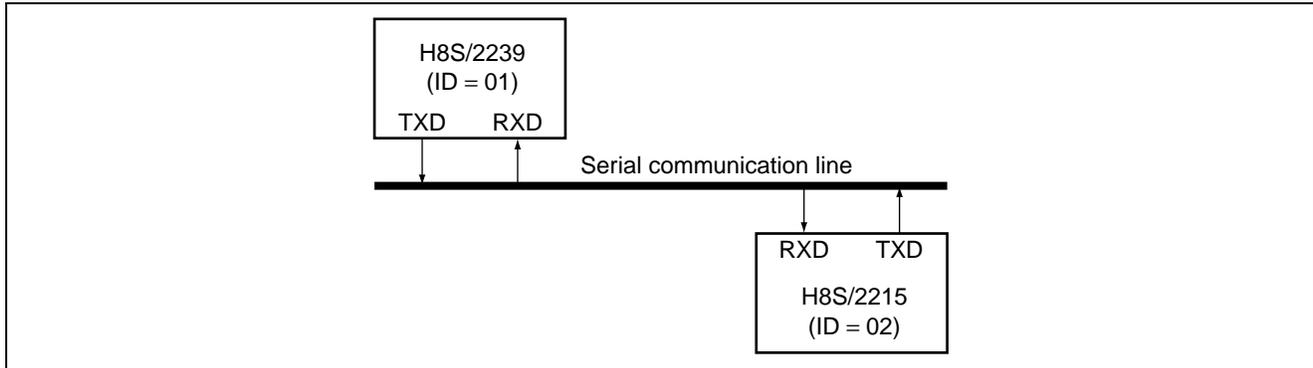

Figure 1 Block Diagram of Asynchronous SCI Using Multiprocessor Function
1. As shown in figure 1, this sample task transmits and receives data between on H8S/2239 and two H8S/2215 units, sharing the serial communication line.